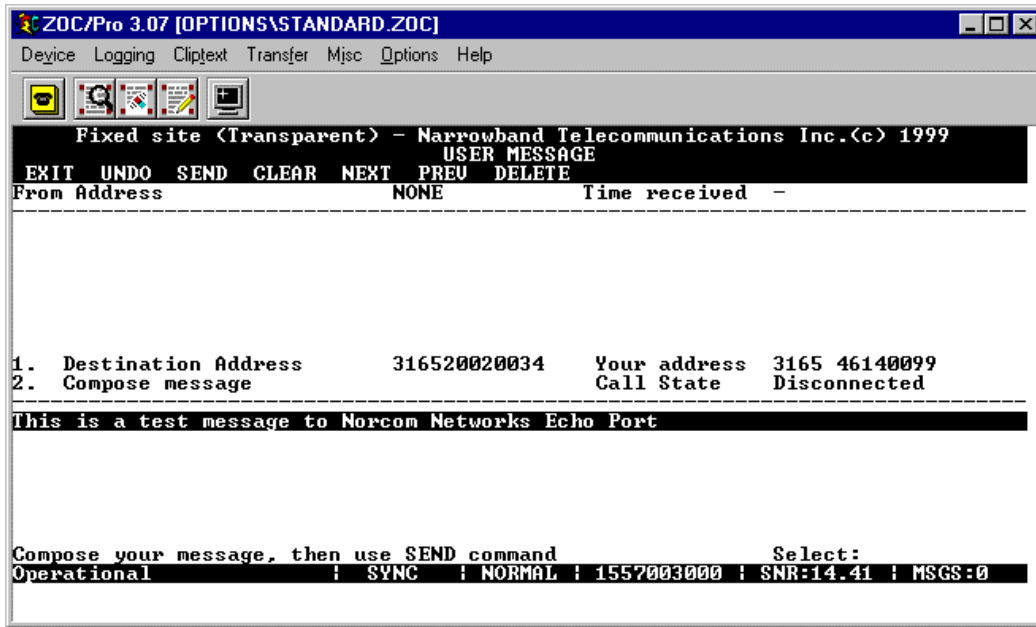

Figure 8. User Message (Send portion) window
5. Type a short message (7 lines or less) as displayed in figure 8.